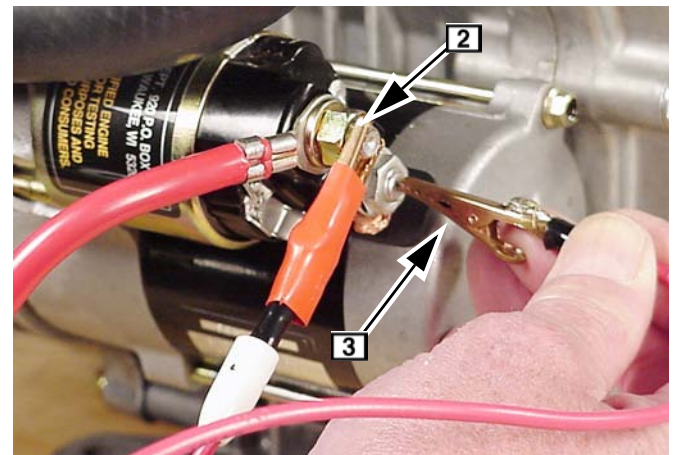

Fig. 8
5. With other end of jumper wire, make contact to the field terminal **3** on solenoid, Fig. 8.